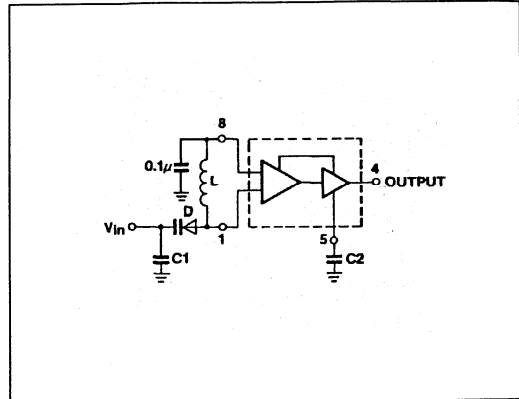

Fig.5 The SP1648 operating in the voltage-controlled mode
When operating the oscillator in the voltage controlled mode (Fig.5), it should be noted that the cathode of the varactor diode, (D) should be biased at least  $2V_{BE}$  above  $V_{EE}$  ( $\approx 1.4v$  for positive supply operation).
Capacitors (C1 and C2 of Fig.5) should be used to bypass the AGC point and the VCO input (varactor diode), guaranteeing only dc levels at these points.